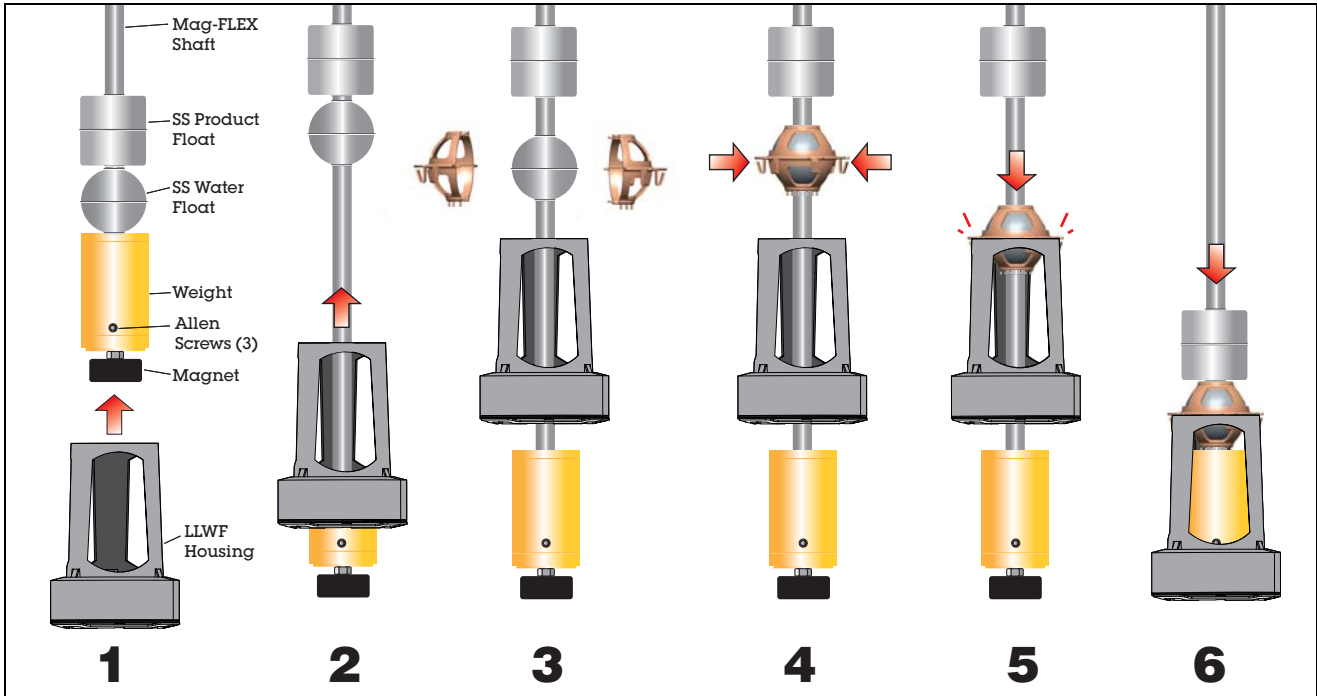

Figure 1. Installing The Low Level Float Assembly
2. Slide the LLWF housing over the Mag-FLEX probe's weight (views 1 and 2 in Figure 1).
3. Place half of the adapter around the ss water float. Take the remaining half of the adapter and place it around the opposite side of the water float making sure to align the pins and holes on the two adapter halves. Once aligned, squeeze the two halves together securing the ball float inside the adapter (views 3 and 4 in Figure 1).
4. Slide the ss water float assembly down into the top of the LLWF housing until the six latches around the adapter snap into the top of the LLWF housing (view 5 in Figure 1).
7. Gently lower the LLWF assembly down against the weight (view 6 in Figure 1). Notice the six standoff pins beneath the adapter that prevent the float from contacting the weight.